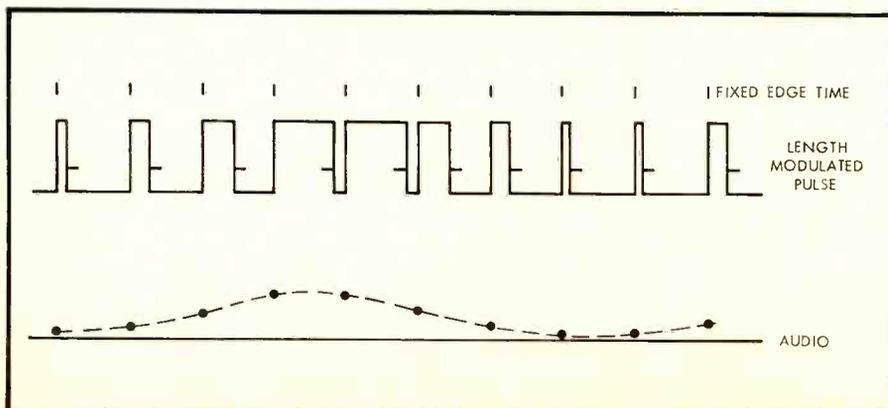

Fig. 4. Modulated pulse with corresponding audio signal.
p.l.m., with only one edge modulated. In Fig. 4 the pulse lengths are 1,3,5,8,8,5,3,1,1,3 units, and the corresponding graph, the audio wave, is shown below the pulse train. If we assume that the current during a pulse is 1 amp, a unit length of pulse is 1/10th of the interpulse time. (This is because I have drawn the pulses to an appropriate scale.) Now 1 amp for 1/10th of the time gives an average load current of 0.1A, and so on, so that the audio waveform is just the smoothed-out charge delivery of the pulse current.
If you look back at Fig. 4 you will see that there is a d.c. component equal to one-half the pulse height. The Ettinger and Cooper amplifier for 1 kw is concerned with this single-sided signal and uses two transistors in parallel, connected in series with the load. For our purposes this d.c. term is a nuisance, and so we make use of a push-pull connection. It is theoretically immaterial whether we use a conventional transformer-coupled circuit, or an OTL bridge or half-bridge. The power am-
plifier must end up looking like a normal amplifier except that we shall be applying the pulse waveform of Fig. 4 and driving the transistors from hard-on to hard-off. There is no problem of matching the transistors, for when they are off they are off, and when they are on they should represent resistances of, perhaps, 1/20th ohm, which is small compared with the speaker impedance.